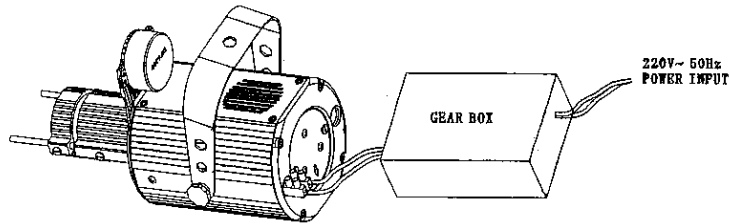

Figure 1
2. See the figure 1 to connect the lamp and gear box